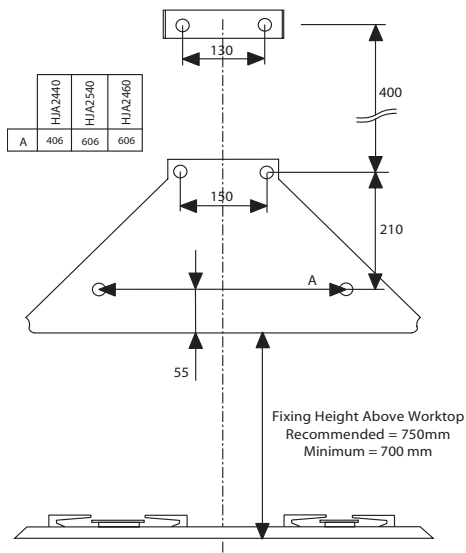

Fig 3.
- With reference to fig 3, mark and drill the six holes required to mount the extractor and lower chimney bracket to the wall, using a 6 mm diameter drill.